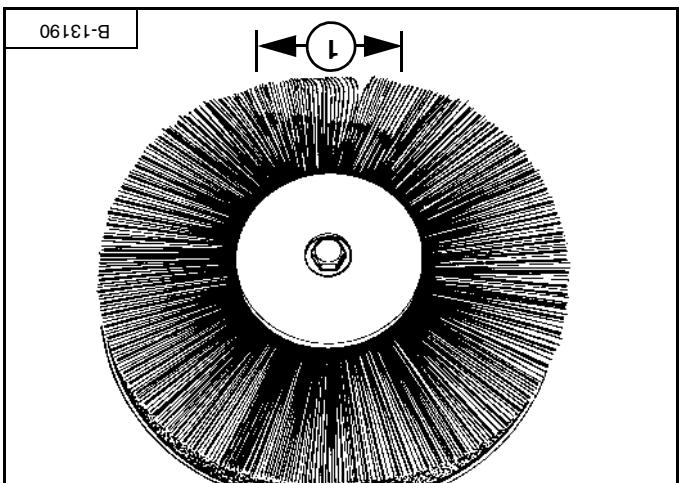
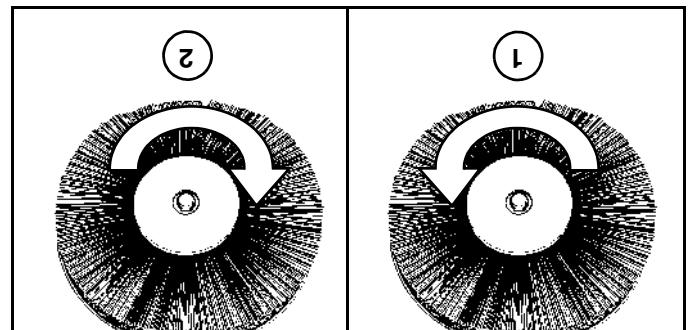
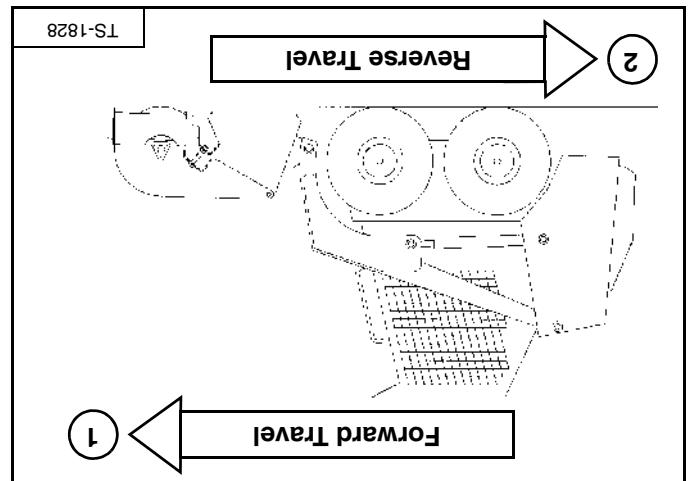

Figure 59
Figure 58
Figure 57
A 50 - 76 mm (2 - 3 in) (Item 1) [Figure 59] pattern is excessive down pressure can result in the following problems which will reduce boom performance:
When travelling in the forward direction (Item 1) [Figure 57] operate the sweeper in the clockwise direction above the surface to be swept [Figure 58] with the cutting edge slightly above the surface to be swept [Figure 59] reduces scratching of swept surface.
- When travelling in the reverse direction (Item 2) [Figure 58] with the cutting edge set on the surface to be swept [Figure 59] reduces scratching of swept surface.
NOTE: Travelling in the forward direction (Item 1) [Figure 57] operates the sweeper in the clockwise direction above the surface to be swept [Figure 58] with the cutting edge slightly above the surface to be swept [Figure 59] reduces scratching of swept surface.
When travelling in the forward direction (Item 1) [Figure 57] operate the sweeper in the anticlockwise direction above the surface to be swept [Figure 58] with the cutting edge slightly above the surface to be swept [Figure 59] reduces scratching of swept surface.